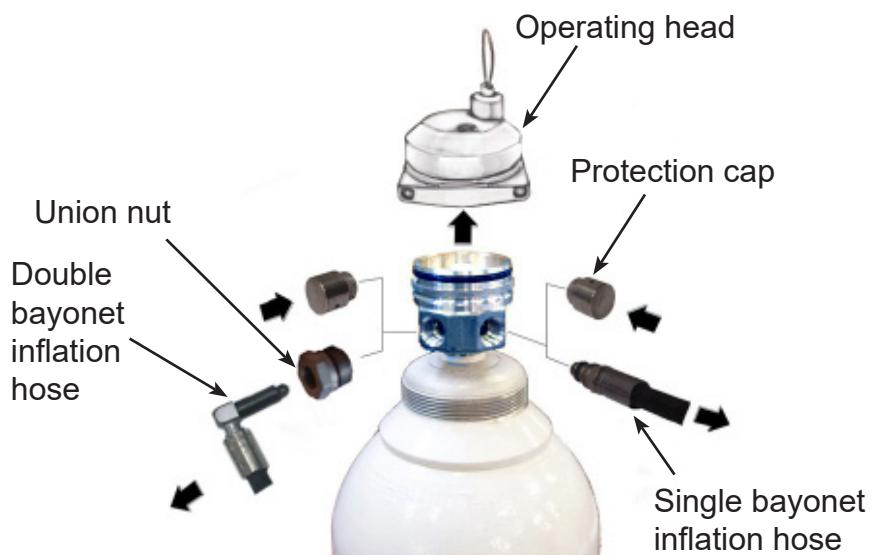

FIGURE 214
- 4.2.21 Take care to remove the operating head. Refer to **Figure 214**.